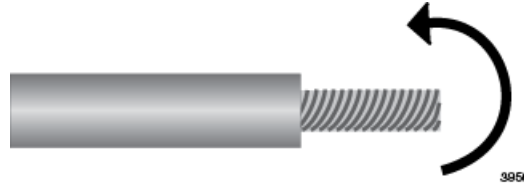

Figure 30. Wrap Wire Strands
2. Tightly wrap the wire strands with your finger tips. Refer to Figure 30 on page 72.